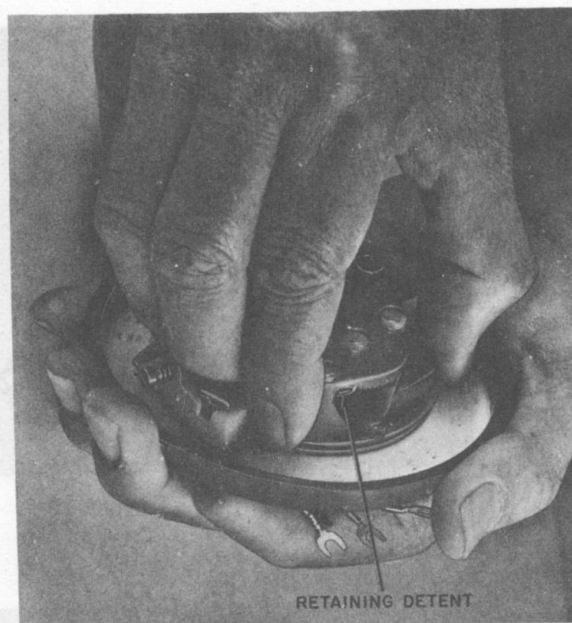

Fig. 8—Removing Plastic Cover
(1) Hold dial as shown in Fig. 8.
(2) Apply pressure with thumb and index finger to distort plastic cover until retaining detent slips over edge of rear plate.
(3) Lift cover upward.
- (1) Place the plastic cover so that the two retaining detents in the side of the cover adjacent to the dial leads are under the edge of the rear plate.
- (2) Press down on the edge of the cover above the retaining detent (Fig. 8) until it snaps over the edge of the rear plate.